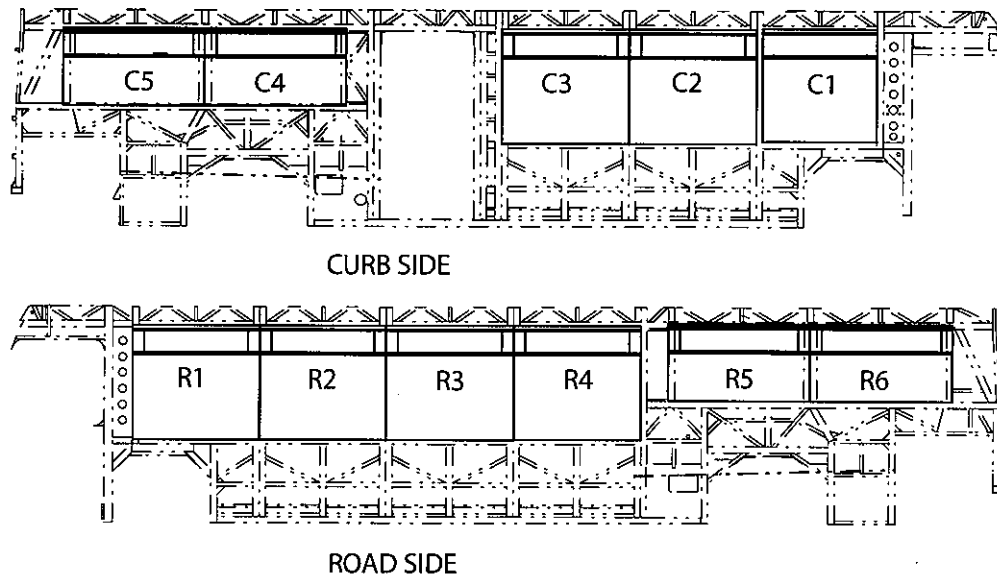

FIGURE 1-2 WINDOW NUMBERING
1. In the bus to be tested, number the windows from the front of the bus to back starting with #C1 (#C2, #C3, #C4, etc.) on the "Curb" side and #R1 from front to rear on the "Road" side. (See Figure 1-2)